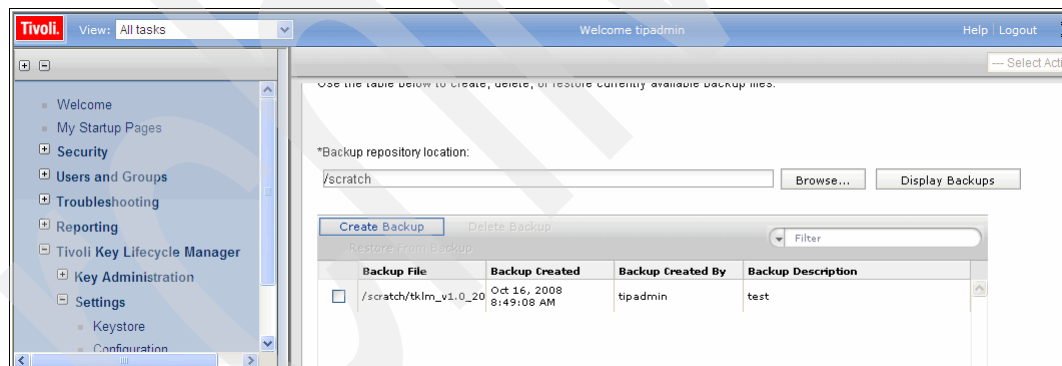

Figure 8-1 TKLM backup/restore
2. Click **Create Backup** (Figure 8-1).